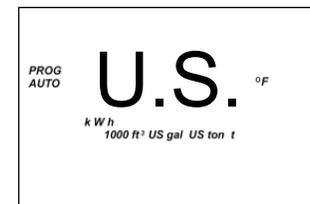

Fig. 14
- Press  or  to display “U.S.” (Fig. 14).